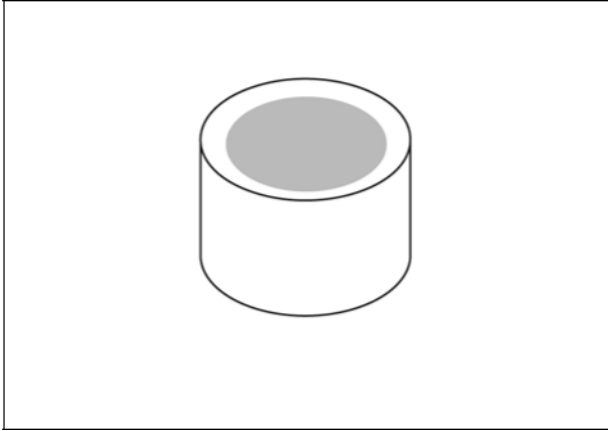

Figure 20
13. Inspect valve stem cap for wear (Figure 20). Replace if cap is worn recessed.